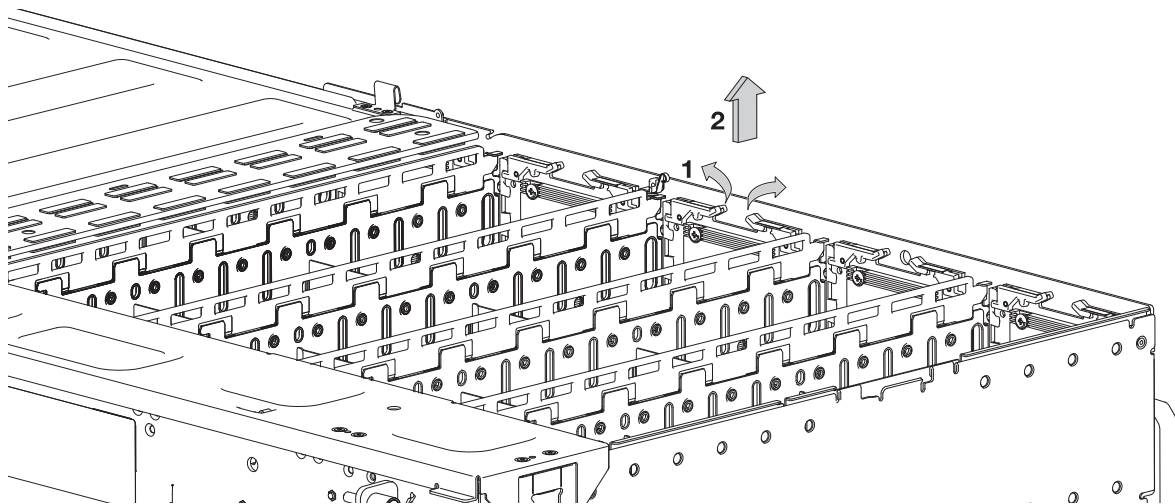
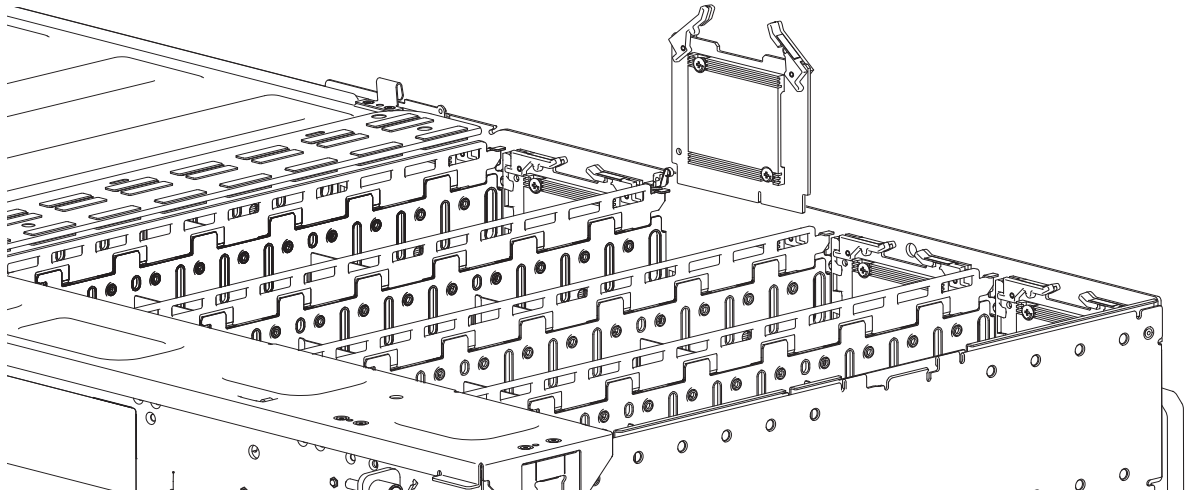

Figure 84 Removing a HS Expander (1 of 2)
Figure 85 Removing a HS Expander (2 of 2)
2. On the faulty HS Expander, grasp each of the two plastic swing-arms between thumb and index finger as shown in Figure 84.
3. Revolve each swing-arm upward to release the PCBA carrier from its slot as shown in Figure 85.
See Figure 84 and Figure 85 when performing this procedure, but ignore the directional arrow—since you will insert the module into the slot—rather than remove it.